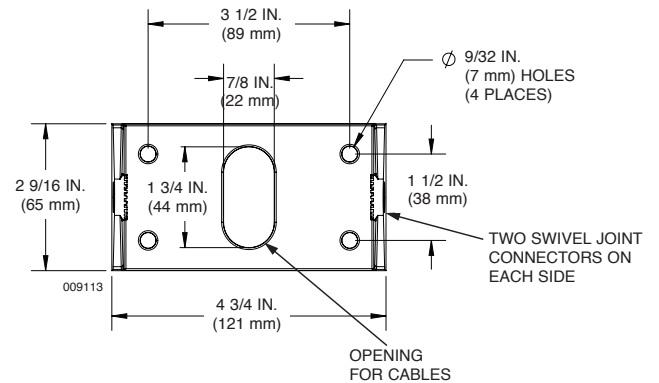

FIGURE 2-3
- Dimensions for bracket base, see Figure 2-3